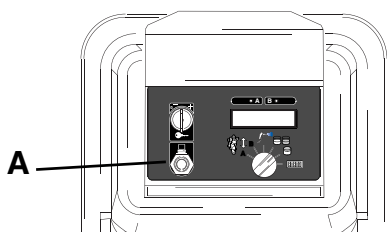

FIG. 1
1. With the unit turned off, connect the RS-232 cable to the unit's data port (A). FIG. 1.